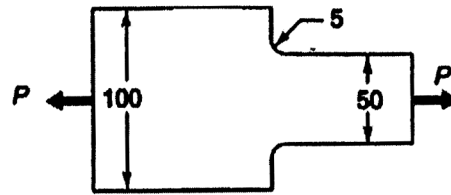

Figure Q6
- A flat plate with machined surface made of mild steel 45C8 ($S_{ut} = 630 \text{ N/mm}^2$) is shown in Figure Q6. It is subjected to fluctuating axial forces as shown in the figure. Determine the modified endurance limit for the component following Marin Equation using suitable charts and tables as provided at the end of the question paper. Consider 90% reliability and a size factor of 0.85. Notch sensitivity factor can be taken as 0.8. [05]